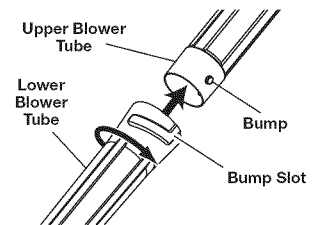

Fig. 2
1. Align the bump slot on the top end of the lower blower tube with the bump on the end of the upper blower tube (Fig. 2).
2. Place the lower blower tube onto the upper blower tube (Fig. 2).
3. Twist the lower blower tube clockwise until tight (Fig. 2).